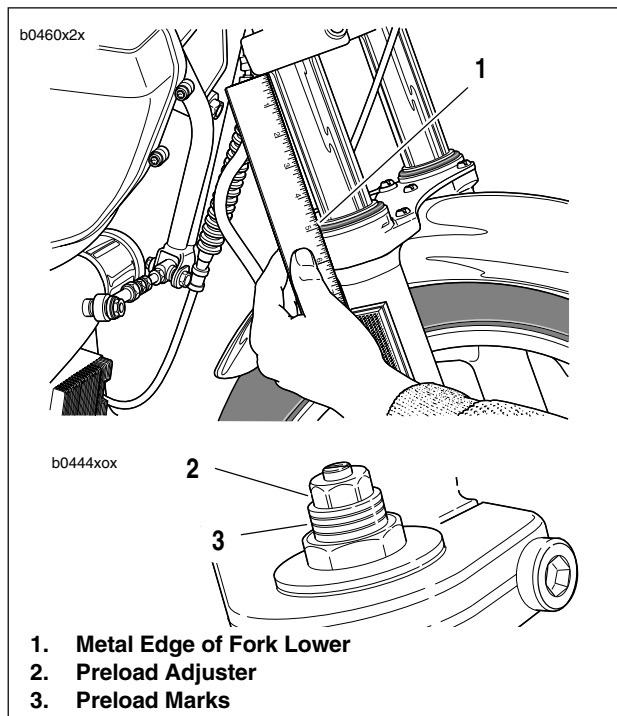

Figure 1-30. Measuring Front Fork Preload
3. See Figure 1-30. With no one on the motorcycle, lift the front end until the forks are fully extended. Measure the distance from the bottom of the lower triple clamp to the top metal edge of the fork lower without rider/passenger/cargo/accessories on the motorcycle.
8. See Figure 1-30. Adjust preload by turning preload adjusters on top of both fork legs.